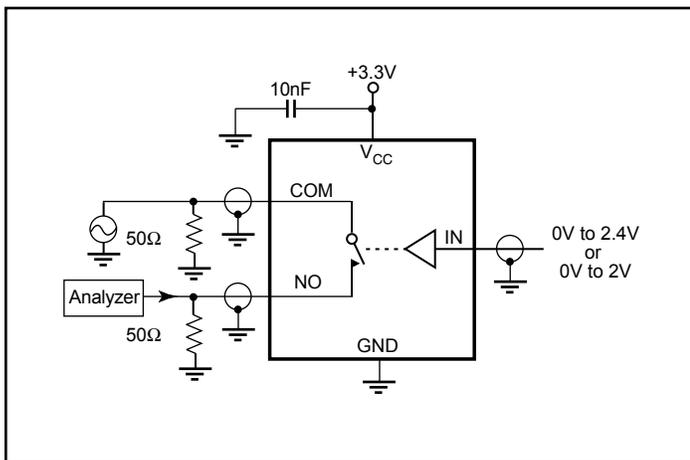

Figure 3. Off Isolation
7. Off Isolation =  $20\log_{10} [ V_{COM} / (V_{NO} \text{ or } V_{NC}) ]$ . See Figure 3.